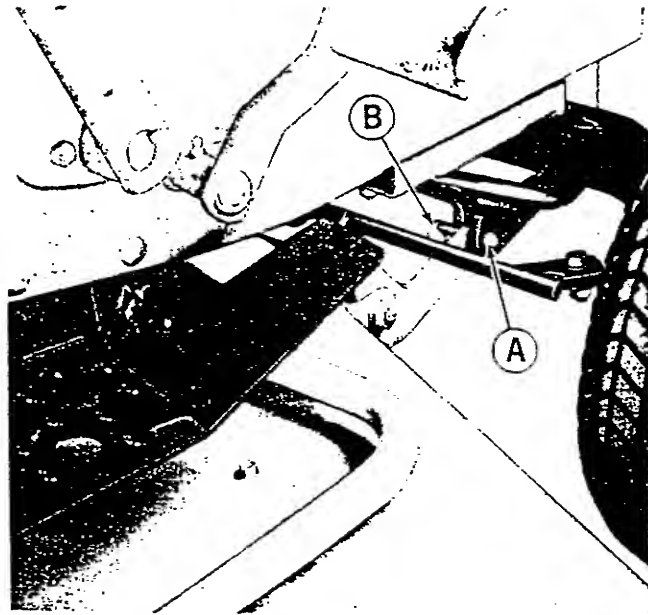

Figure 3. Mower attached to tractor front axle.
5. See figure 3. The mower is well enough balanced in this position so one person can easily install the pins (A) to attach the hitch assembly of the mower to the tractor front axle. This is most easily done by installing the left pin and spring clip (B) shown in figure 3.
5. See figure 3. Remove the spring clips (B) and two pins (A) to unfasten the mower hitch from the tractor front axle.
A light coating of grease or SAE 30 weight oil should also be placed on the mower mounting pins, (Figure 3, item A) and all mower pivot points to reduce wear.